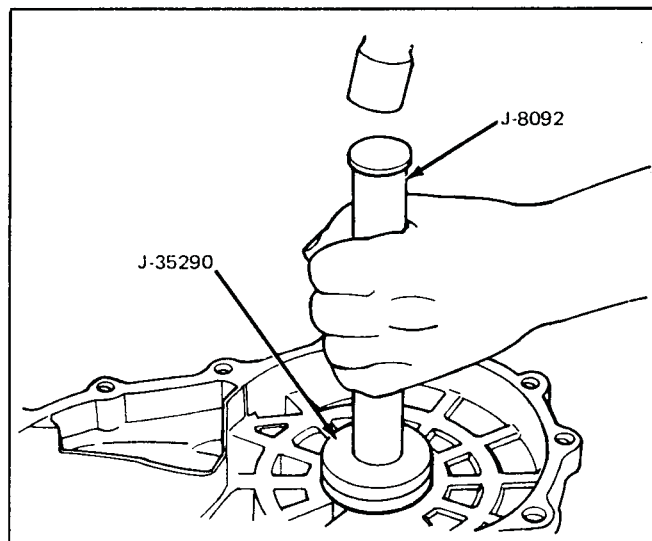

Figure 7A-95 Side Bearing Race Installation/Housing
40. Install the planetary carrier assembly on the sun gear. Place the thrust washer and bearing on the carrier as shown in Figure 7A-124.